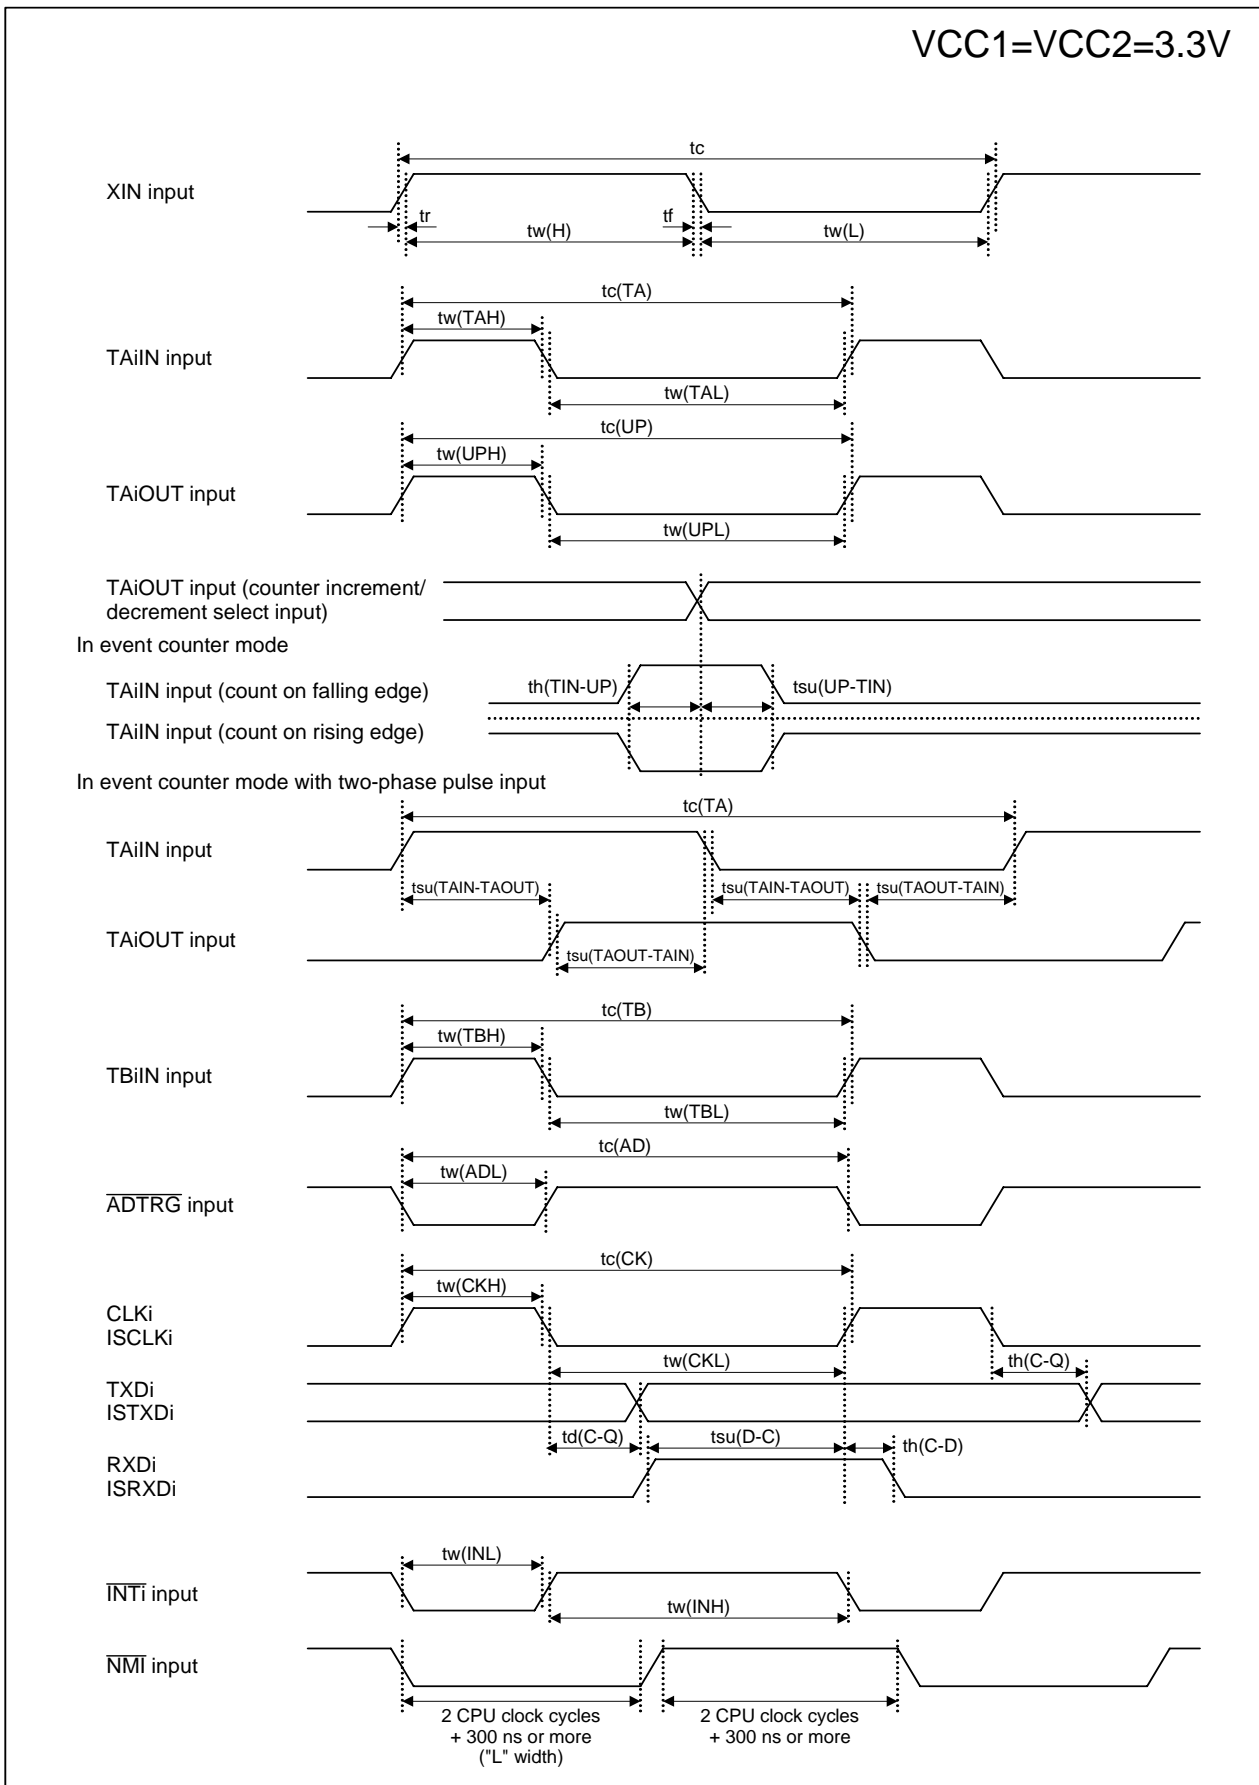

Figure 5.7 VCC1 = VCC2 = 3.3 V Timing Diagram (1/4)
71	• Figure 5.7 Vcc1=Vcc2=3.3V Timing Diagram (1) $t_h(BCLK-AD)$ , $t_h(BCLK-CS)$ and $t_h(BCLK-RD)$ values modified; $t_{ac1}(AD-DB)$ expression on note 2 modified; $t_h(WR-DB)$ , $t_h(WR-AD)$ and $t_w(WR)$ expression on note 3 modified; $t_{cyc}$ expression added
47	Electrical Characteristics <ul style="list-style-type: none"> <li>• [Term changed] Low Voltage Reset → Hardware Reset 2 Low Voltage Detection → Vdet3 and Vdet4 detection circuit</li> <li>• Table 5.1 Description in Condition field of Pd (Power consumption) partially modified</li> <li>• Tables 5.2 to 5.9 f(BCLK) is changed to f(CPU)</li> <li>• Table 5.4 Description added in Parameter field of f(CPU); f(VCO) added</li> <li>• Tables 5.5 to 5.7 and Tables 5.31 to 5.33 Description in XCOUT and Hysteresis in Parameter fields partially modified</li> <li>• Table 5.7 and 5.33 Structure and standard values revised; items in Measurement Condition and NOTE added</li> <li>• Table 5.8 Description in Parameter field and NOTE partially modified</li> <li>• Table 5.9 and 5.10 Description in Parameter field and NOTE partially modified</li> <li>• Tables 5.11 and 5.36 Description in Parameter field and standard value partially modified</li> <li>• Tables 5.19 and 5.42 added</li> <li>• Table 5.24 Values revised; Table 5.25 and 5.26 added</li> <li>• Table 5.27 Titles modified; NOTE added</li> <li>• Table 5.28 moved to the last table in Timing Requirements</li> <li>• Table 5.29 NOTE 3 added; Table 26.30 NOTE 5 added</li> <li>• Figures 5.3 to 5.6 Order rearranged; measurement condition modified</li> <li>• Table 5.31 to 5.35 f(BCLK) revised to f(CPU)</li> <li>• Table 5.47 Values revised; Table 5.48 and 5.49 added</li> <li>• Table 5.50 Titles modified; NOTE added</li> <li>• Table 5.51 Table moved to the last table in Timing Requirements</li> <li>• Table 5.52 NOTE 3 added; Table 5.53 NOTE 5 added</li> <li>• Figures 5.7 to 5.10 Order rearranged</li> </ul>